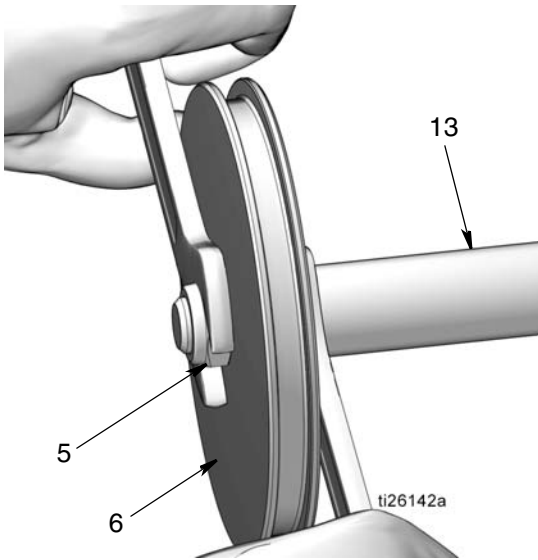

FIG. 51
- d. Install nut (5) over the end of the piston rod (13). Use two wrenches, working in opposite directions to tighten the nut. Secure one open end wrench to flats of piston rod and use the second wrench to tighten the nut (5) as shown in FIG. 51.